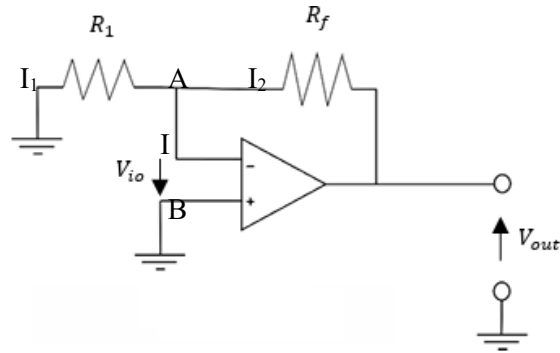

FIGURE 2
1. Connect the unity gain buffer circuit as shown in Figure 2.